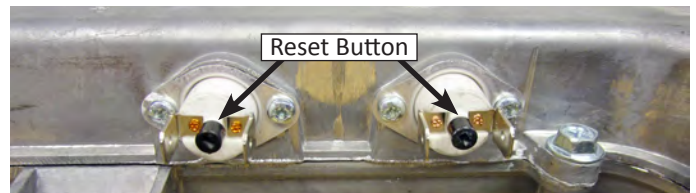

Figure 2 - Resettable Thermal Cutoffs (TCO's)
- Each thermal cutoff has a “reset” button. If either thermal cutoff is open, and cannot be reset, replace the thermal cutoff (see Figure 2). **NOTE:** Apply thermal grease/paste when replacing thermal cutoff.